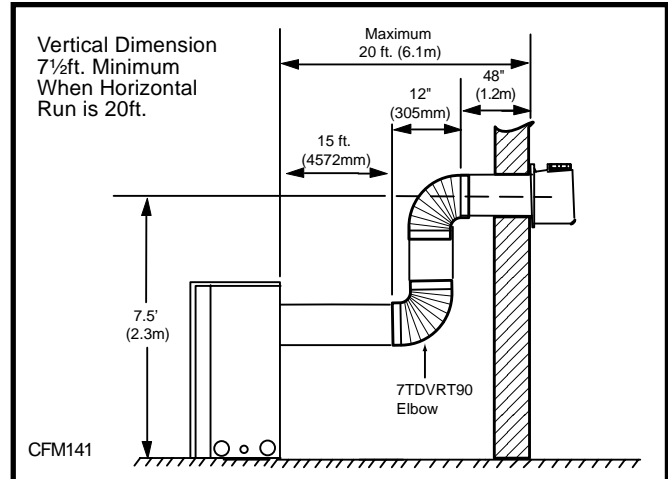

Fig. 18 Maximum number of 90° elbows is three (3).
- The maximum horizontal vent run is 20 ft. (6.1m) when the vertical vent rise is 7½ ft. (2.3m). (Fig. 18)
- The maximum number of 90° elbows per side wall installation is three (3).